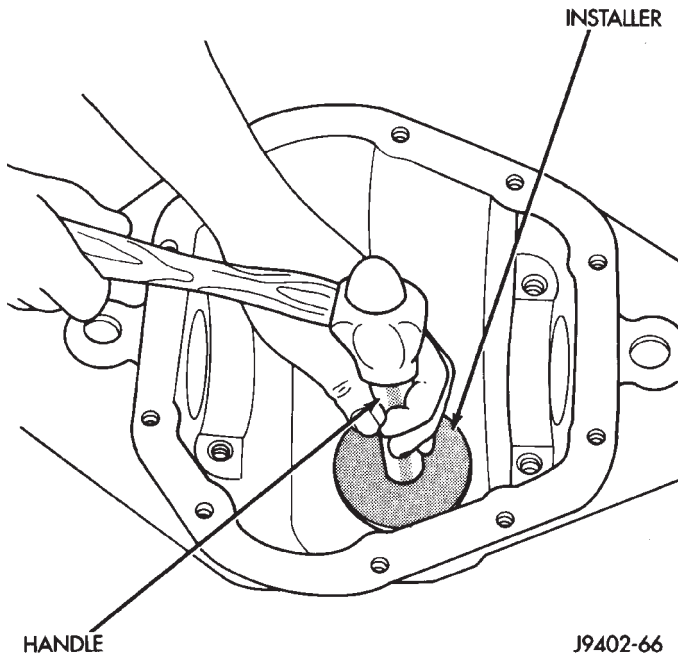

Fig. 33 Rear Pinion Bearing Cup Installation
(1) Place proper thickness depth shim in rear pinion bearing cup bore in the axle housing.
(2) Apply Mopar® Door Ease, or equivalent, stick lubricant to outside surface of rear pinion bearing cup. Install the bearing cup with Installer D-146 and Handle C-4171 (Fig. 33). Verify cup is correctly seated.